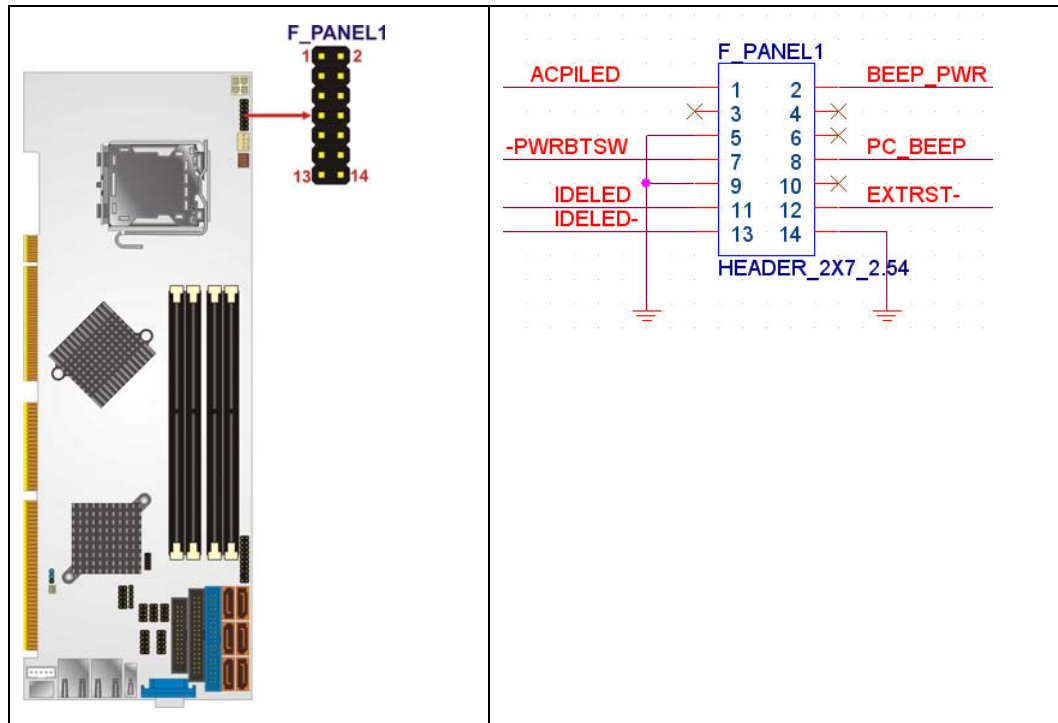

Figure 4-7: Front Panel Connector Pinout Locations (14-pin)
- CN Location:** See **Figure 4-7**